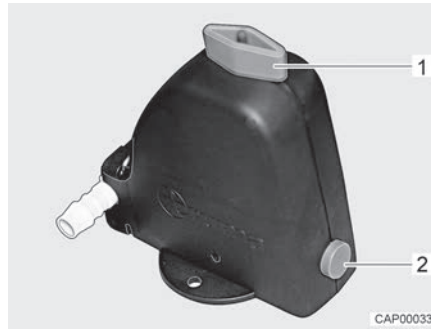
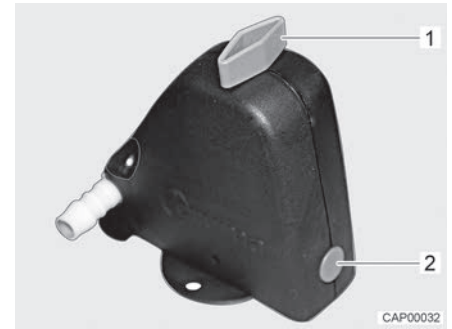

Fig. 110 Safety/drainage valve open
Fig. 111 Safety/drainage valve closed
- Close the safety/drainage valve. Turn the knob (Fig. 110,1) perpendicular to the safety/drainage valve and push the push button (Fig. 110,2) in. The closed safety/drainage valve is shown in Fig. 111. If the temperature is below 6 °C, the safety/drainage valve cannot be closed.